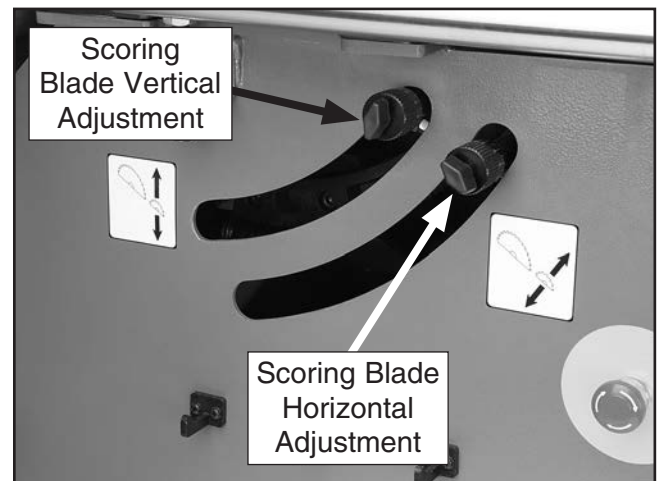

Figure 48. Scoring blade adjustment controls.
40. Move the scoring blade tilt to 0° (blade 90° to table), then raise it up, using the vertical adjustment knob (**Figure 48**), until enough of the wedge shaped teeth are exposed from the table surface to equal the same width as the main blade teeth.